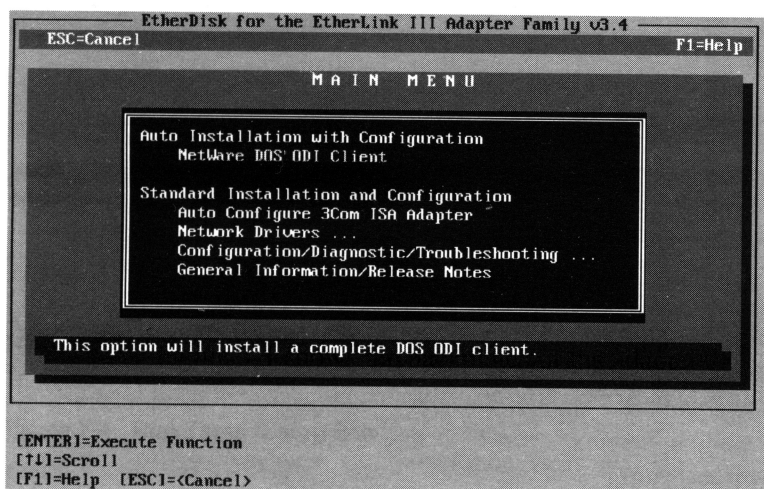

Figure 7-2. Main Menu
6. When the main menu screen shown in Figure 7-2 appears, select Configuration/Diagnostic/Troubleshooting and press [Enter].